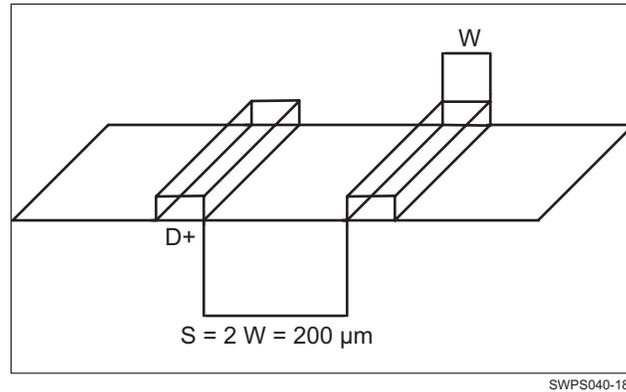

图 8-28. Ground Guard Illustration
- For a line width equal to W , the spacing between two lines must be $2W$, at least. This minimizes the crosstalk between switching signals between the different lines. On the PCB, this is not achievable everywhere (for example, when breaking signals out from the device package), but it is recommended to follow this rule as much as possible. When violating this guideline, minimize the length of the traces running parallel to each other (see 图 8-28).